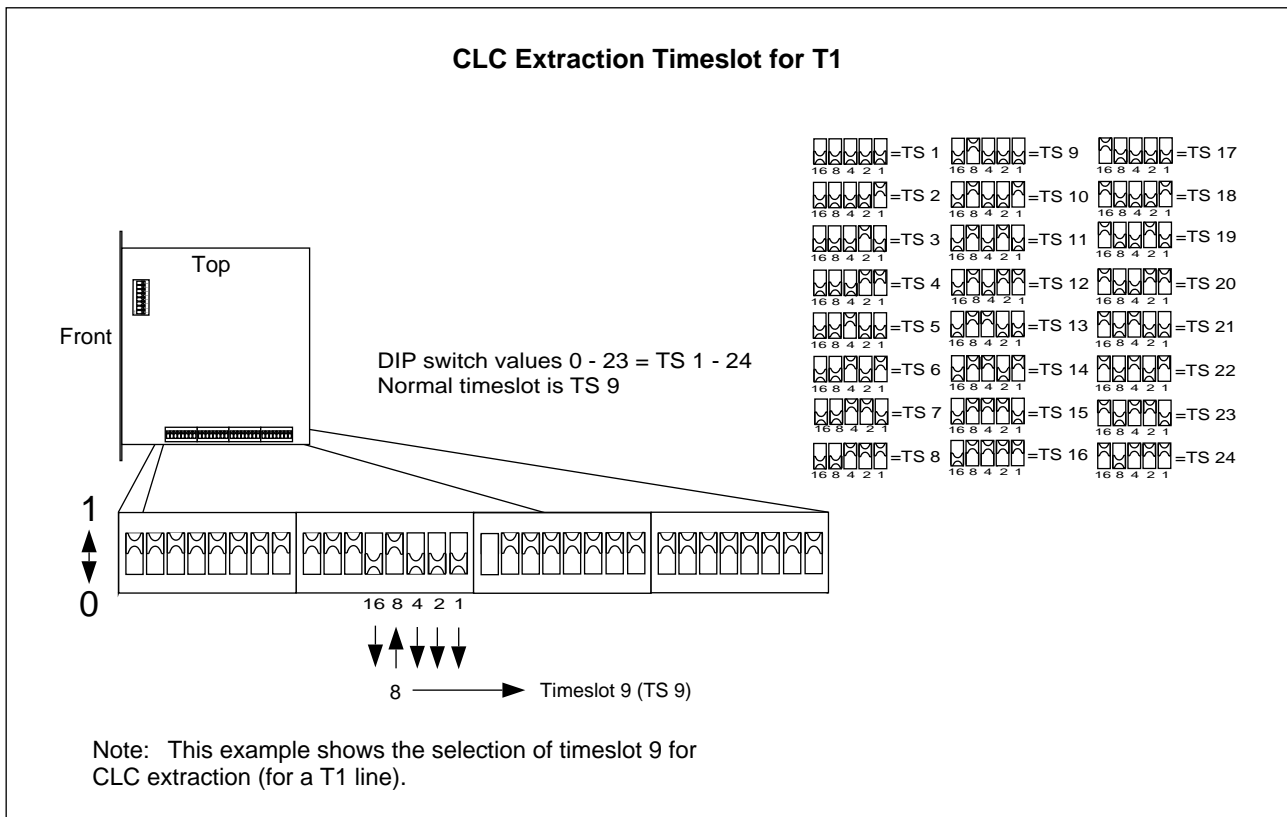

Figure 4-30. Setting the CLC Extraction Timeslot for T1
12. For a T1 PCM line, select the timeslot (TS) for Control signaling Link (CLC) extraction, as shown in Figure 4-30 on page 4-48, in accordance with the *Configuration Data* in the *Site Installation Documentation*.